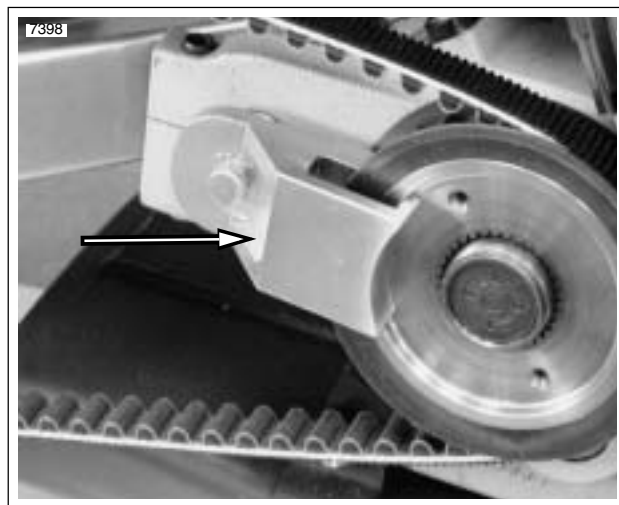

**Figure 6-55. Transmission Sprocket**
1. See Figure 6-55. Place transmission in first gear. Remove two socket head screws (5) and lockplate (4).
2. See Figure 6-55. Remove transmission sprocket nut (3) from main drive gear shaft (1).
1. See Figure 6-55. Install transmission sprocket (2) with secondary drive belt onto main drive gear shaft (1).
3. Apply a few drops of LOCTITE 262 (red) to the **left-hand threads** of transmission sprocket nut (3). Position nut with washer-faced side facing transmission sprocket. Turn the nut **counterclockwise** to install it onto main drive gear shaft.
8. See Figure 6-55. Install lockplate over nut so that two of lockplate's four drilled holes (diagonally opposite) align with sprocket's two tapped holes.
10. See Figure 6-55. Install two socket head screws through aligned holes of lockplate and into tapped holes of sprocket. Tighten to 90-110 **in-lbs** (10-12 Nm).